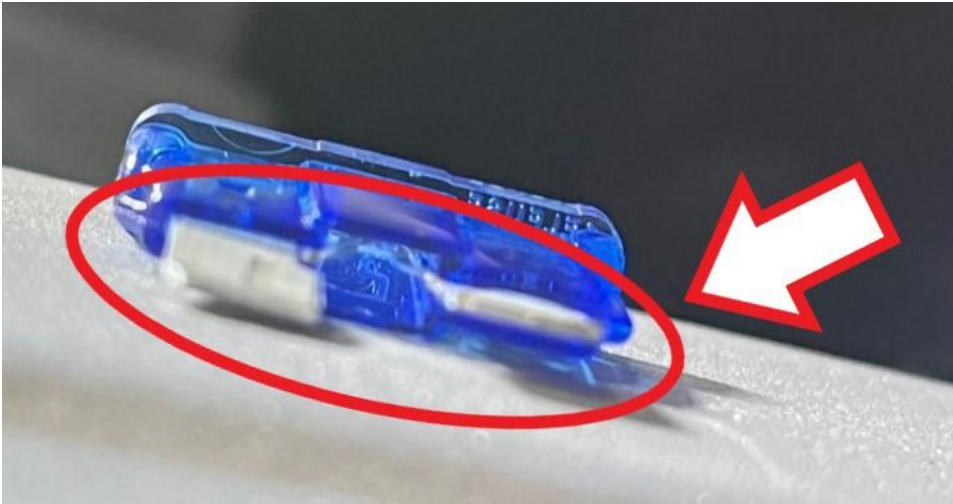

Figure 1
**Hint:** The fuse blades shown in Figure 1 are damaged / bent, in this scenario the fuse must be renewed, ensure both blades are aligned to both terminals before fitting the fuse